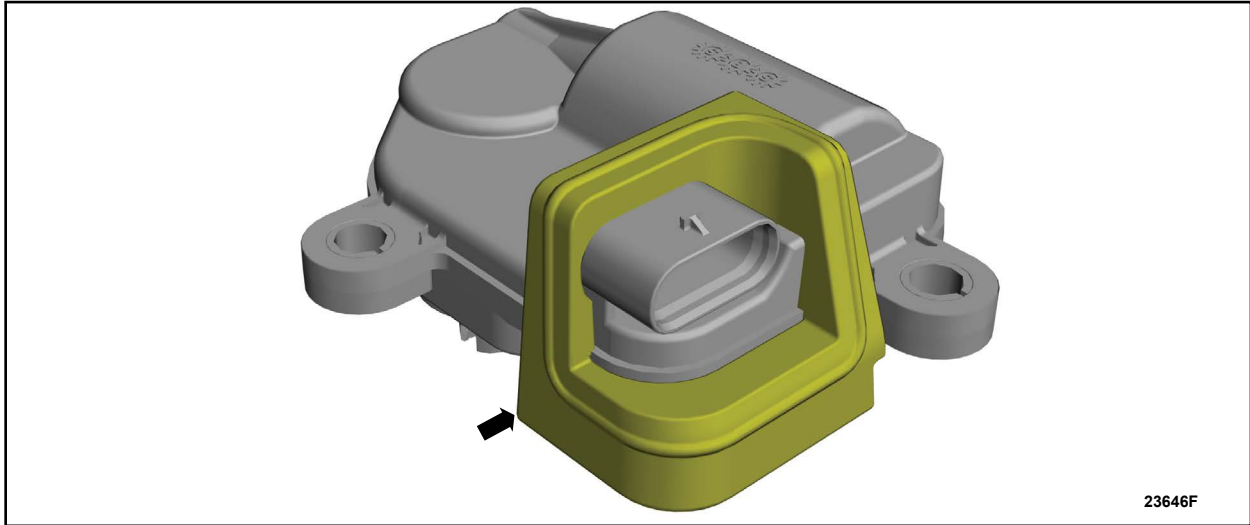

FIGURE 6
6. Position the dust seal on the actuator electrical connector area. See Figure 6.